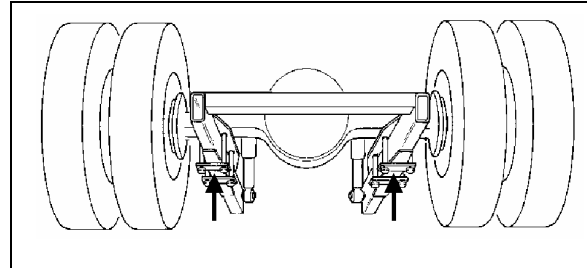
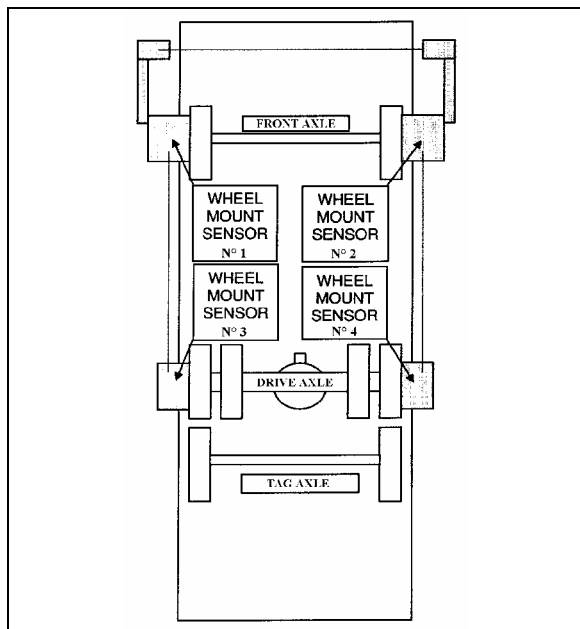

FIGURE 6: JACKING POINTS ON DRIVE AXLE
FIGURE 8: FRONT & DRIVE AXLE ALIGNMENT
8. Install jacks under the axle jacking points to support the axle weight (refer to figure 6).
- Remove and reinstall all wheel mount sensors on the drive and tag axles (fig. 8);
Reinstall wheel mount sensors as shown in figure 8. For example, the sensor from the right side of the front axle is mounted on the left side of the tag axle. For corresponding wheel mount sensor reference numbers, refer to figure 6.